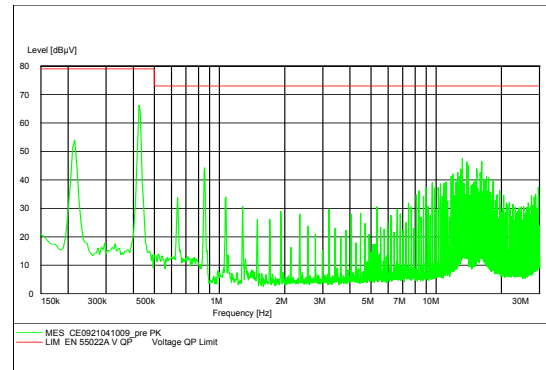

**Figure 43.  $T_{ref}$  Temperature Measurement Locations.**
To provide protection under certain fault conditions, the unit is equipped with a thermal shutdown circuit. The unit will shutdown if the thermal reference point  $T_{ref}$  (Figure 43), exceeds 125°C (typical), but the thermal shutdown is not intended as a guarantee that the unit will survive temperatures beyond its rating. The module can be restarted by cycling the dc input power for at least one second or by toggling the remote on/off signal for at least one second. If the auto-restart option (4) is ordered, the module will automatically restart upon cool-down to a safe temperature.
The thermal reference point,  $T_{ref}$  used in the specifications is shown in Figure 43. For reliable operation this temperature should not exceed 120°C.